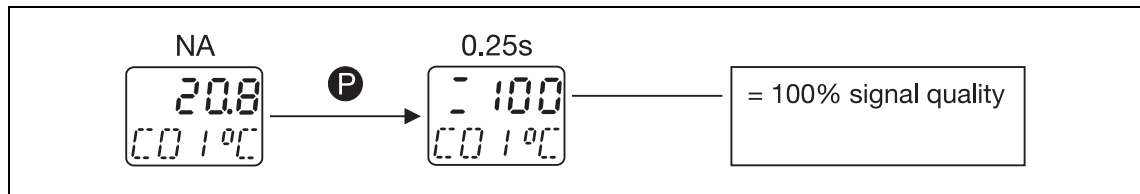

Figure 21: Signal quality display
Key **P** is used to show the signal quality of the current channel in percent in the standard display (NA) (see Figure 21, 100 %).